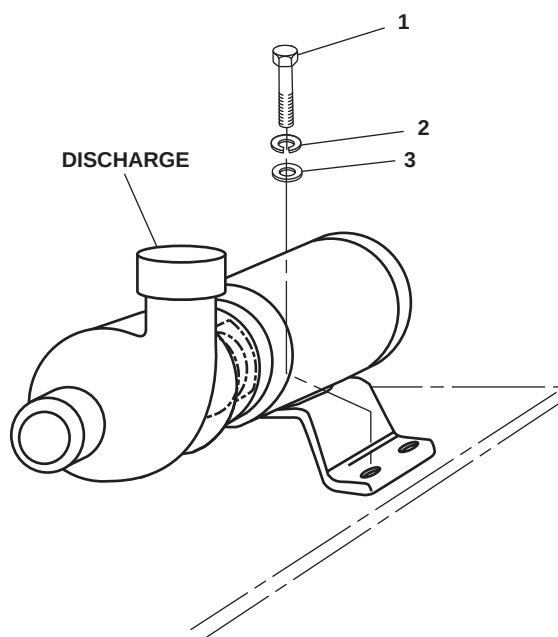

Figure 1. Sewage Pump Hardware Replacement
Remove the four bolts (figure 1, item 1), four lockwashers (figure 1, item 2), and four flat washers (figure 1, item 3). Discard the lockwashers.
1. Install the four bolts (figure 1, item 1), four new lockwashers (figure 1, item 2), and the four flat washers (figure 1, item 3).